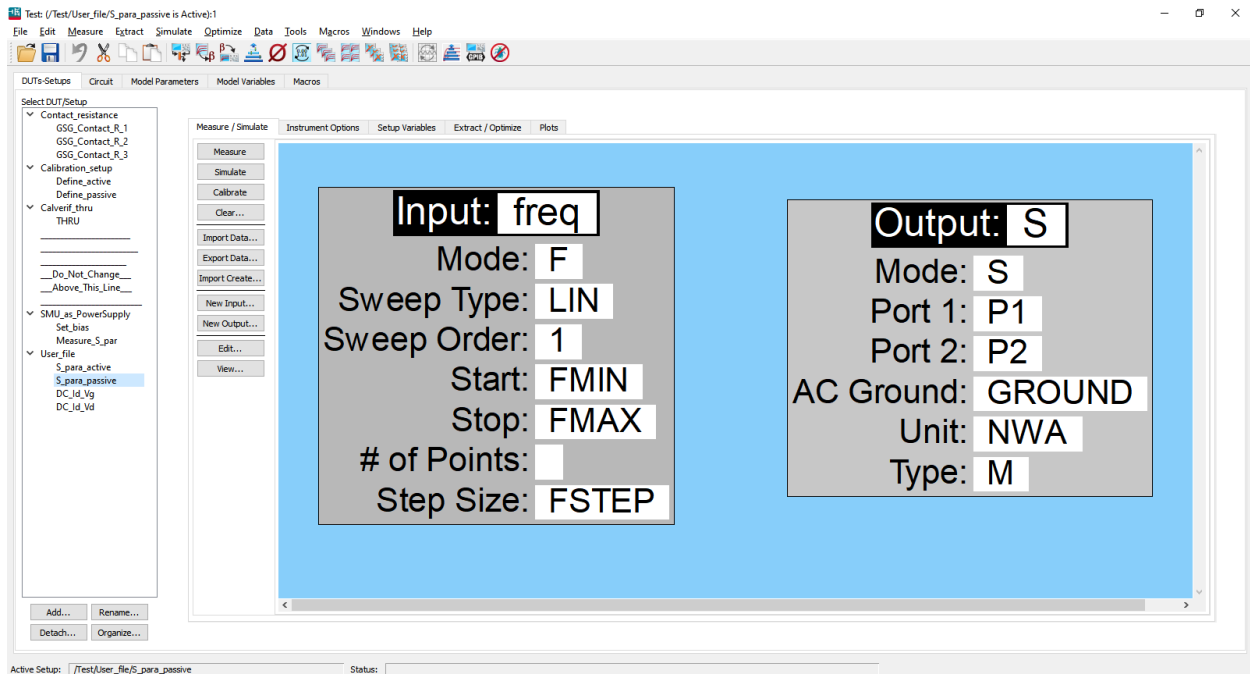

Fig. 8.2. Template for measuring S parameters of a passive device without any bias.
8.14 In the project you loaded in Step 7.1, select the proper IC-CAP setup for your devices. There are four basic setups under "User_file." "S_para_passive" is for S-parameter measurements without any DC bias, "S_para_active" is for S-parameter measurements with DC bias supplied through the bias-Ts, "DC_Id_Vg" is for DC measurements of transfer characteristics of a transistor, and "DC_Id_Vd" is for DC measurements of output characteristics of a transistor. These templates are illustrated in Figs. 8.2–8.5. You can customize them and save them under new file names. "NWA" means "VNA." Its frequency range was set in Step 7.13. Conventionally, the left (input) port is "P1" and the right (output) port is "P2." The left bias-T is connected to HRSMU3 (± 100 V, 0.1 A) of the PSPA, while the right bias-T is connected to HPSMU5 (± 200 V, 0.5 A) of the PSPA. Their DC input is set in voltage such as Vg and Vd. **"Compliance" is set to a small limit such as 10 mA to avoid burning out the DUT, or, worse, the test setup in case the DUT is shorted out!**